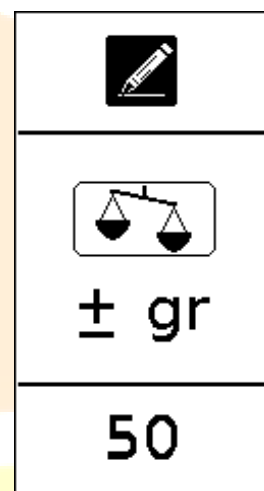

Figure 24 - Dough piece weight correction
Press the "DOUGH WEIGHT CORRECTION" push-button 2.4 ref. 4: the display will show the image in Figure 24.